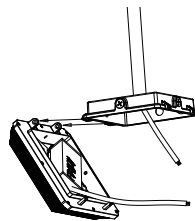

Fig.1-4
4. Hinge the lens assembly back onto the driver compartment in order to make the electrical connections (Fig.1-4)